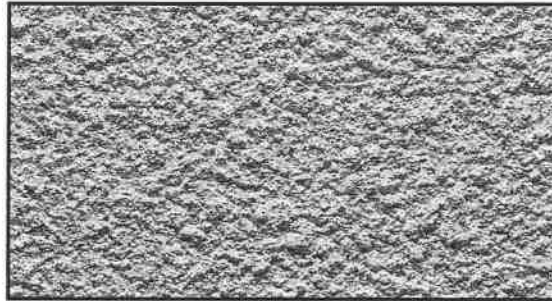

FIGURE 5.1
5.1 FIGURE 5.1 below indicates a splatter finished wall.